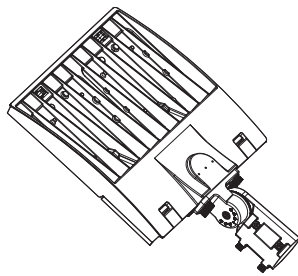

FIG. 6
2. Lock the mounting and housing in place using the supplied M8x40mm machine thread screw, M8 spring washer and flat washer at torque setting 9.6 NM (See Fig. 6)